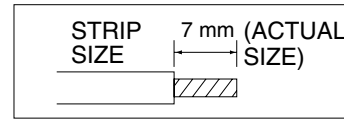

Fig. 3-35
- (1) Cut the wire end with a cutting pliers, then strip the insulation to expose the wire about 7 mm. See the label (Fig. 3-35) near the terminal plate.
- (2) Using a screwdriver, loosen the terminal screw on the terminal plate.
- (3) Insert the wire and tighten the terminal screw completely using a screwdriver.